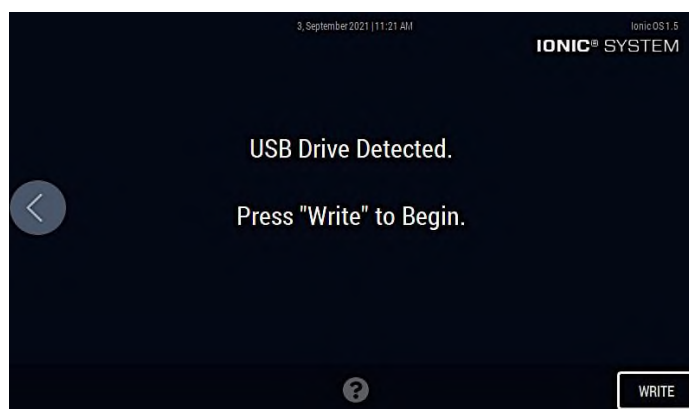

Figure 12. Save System Logs screen - Step 2
3. Once a valid USB drive is detected, the next screen is displayed, shown in **Figure 12**. The definitions in **Table 7** are helpful here. Press **Write** to begin the transfer.